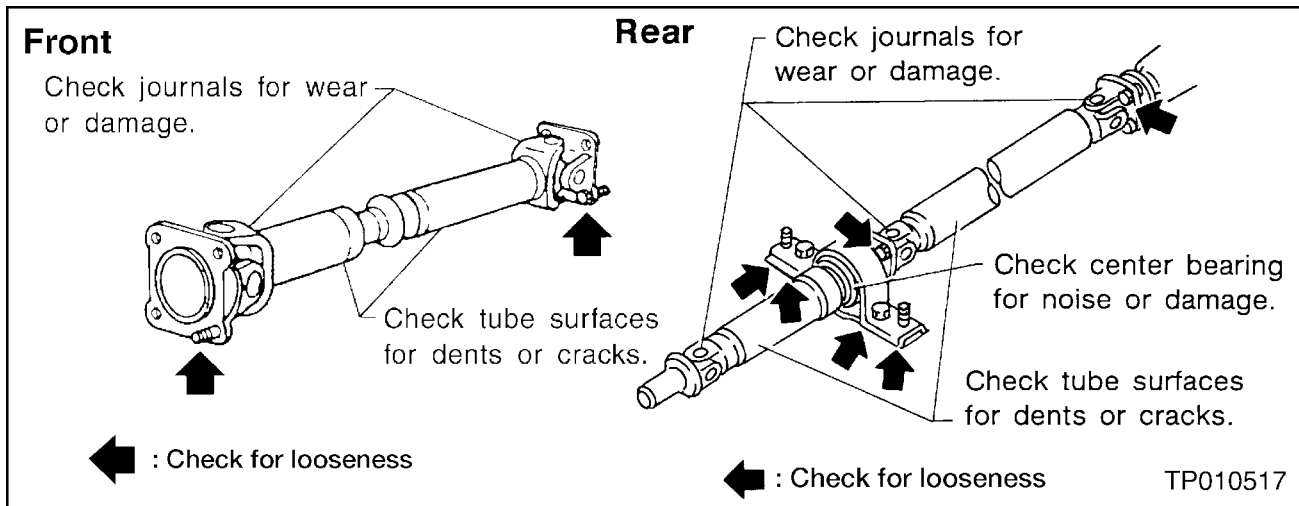

Figure 4
2. Check the propeller shaft(s) for damage, looseness, or grease leakage (see Figure 4).